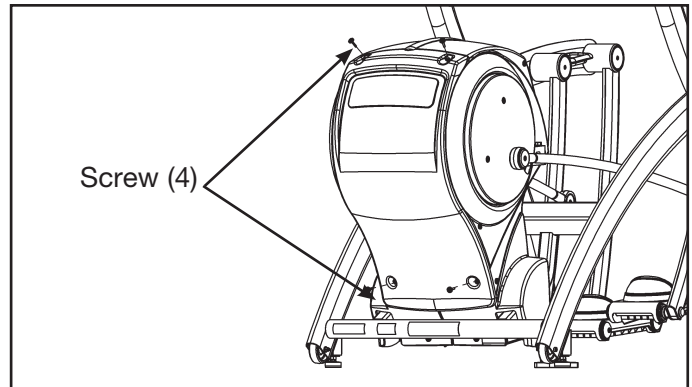

Figure 2
- A. Using a Phillips head screwdriver, remove the four screws and four washers securing the access cover. See Figure 2.